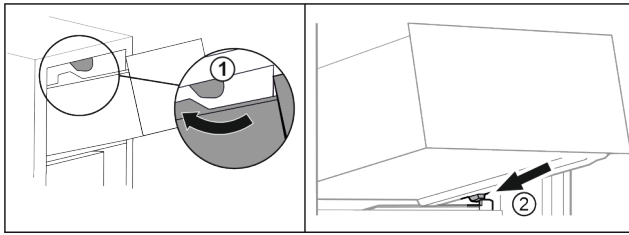

Fig. 112
- Guide drawer around the upper stoppers. Fig. 112 (1)
- Place drawer at an angle behind the lower stoppers onto moulded rib. Fig. 112 (2)